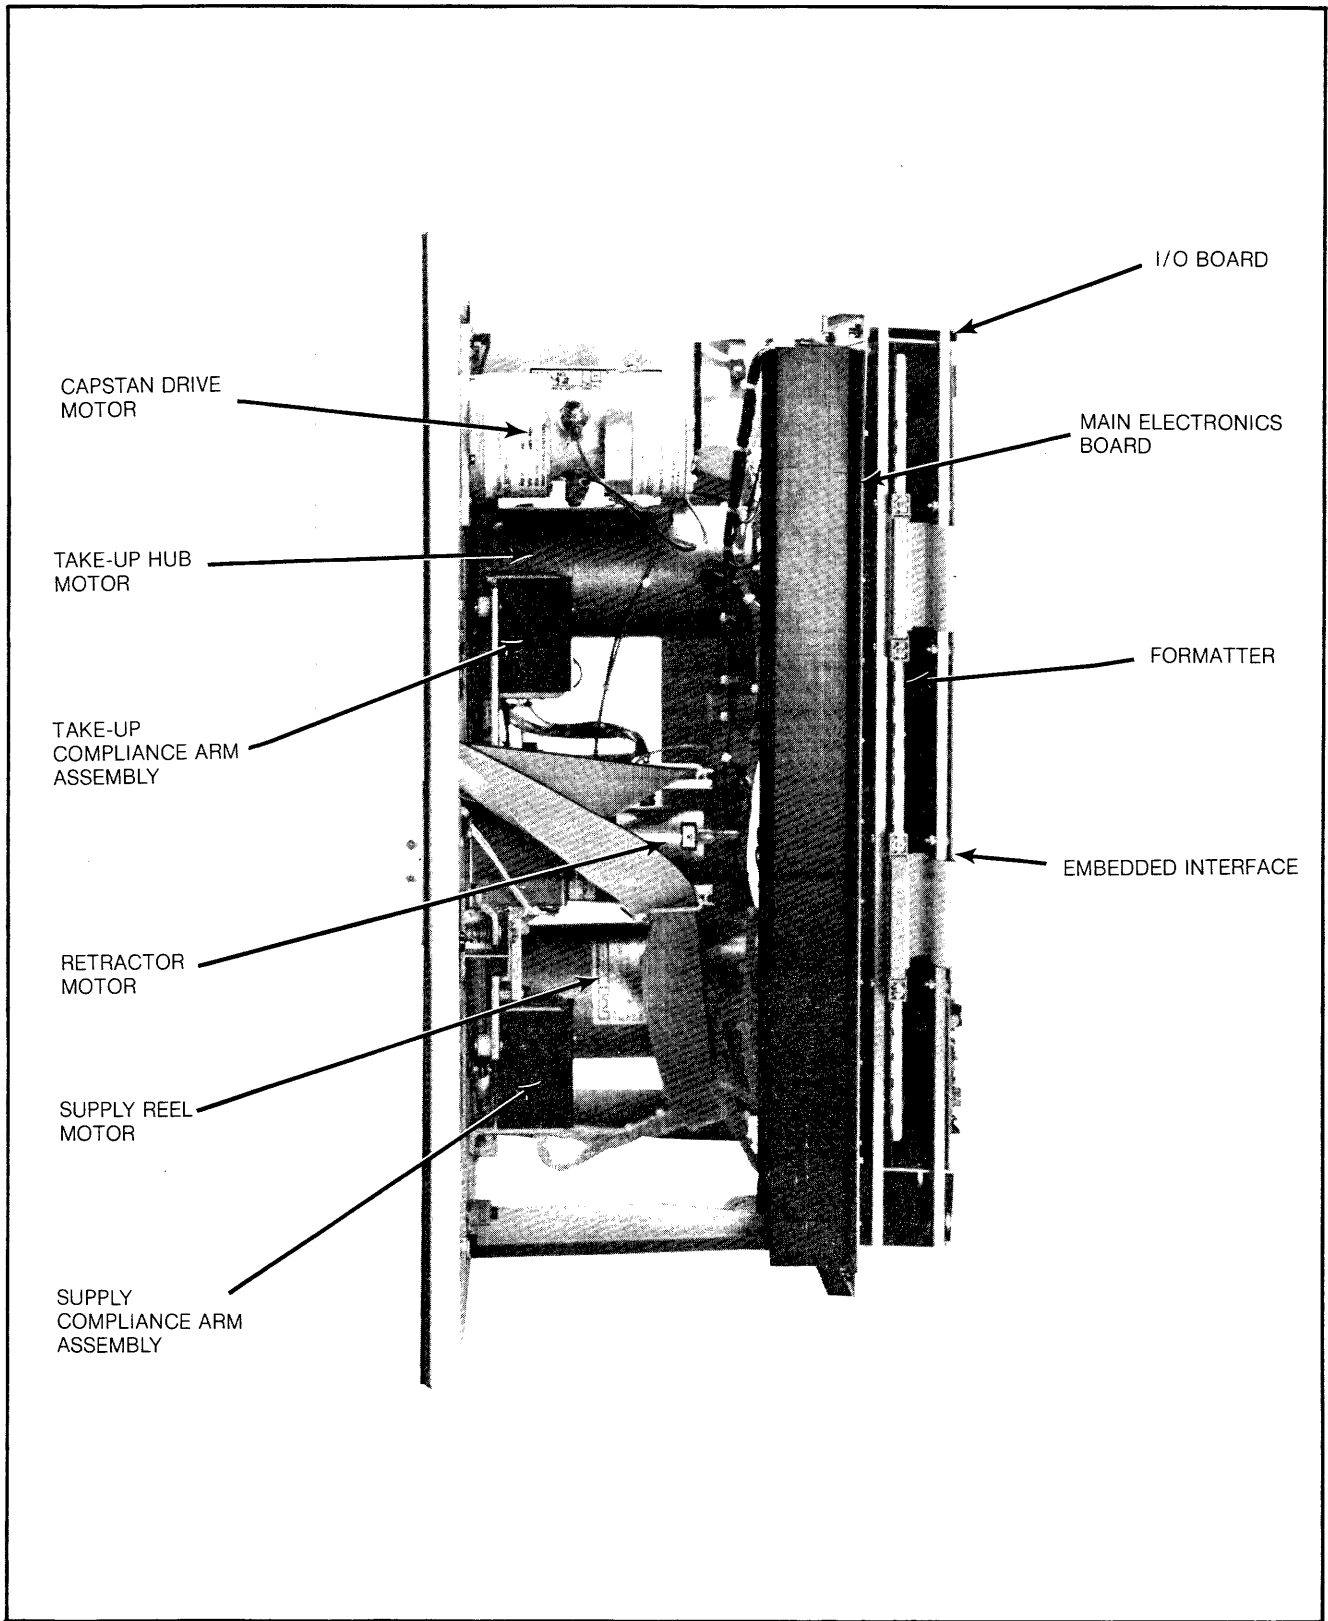

FIGURE 1-3. TAPE TRANSPORT DRIVE MOTORS & ELECTRONICS
1.2.1 TOP PLATE (See Figure 1-3.)